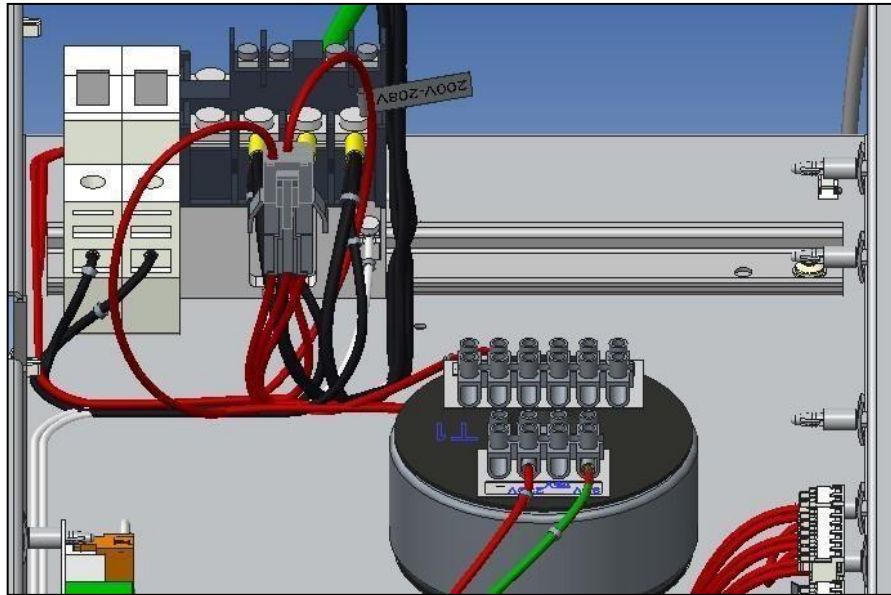

Fig. 3.11
- Connect the voltage selector switch (Fig. 3.11) in accordance with the mains power supply and the following table (Table 2).